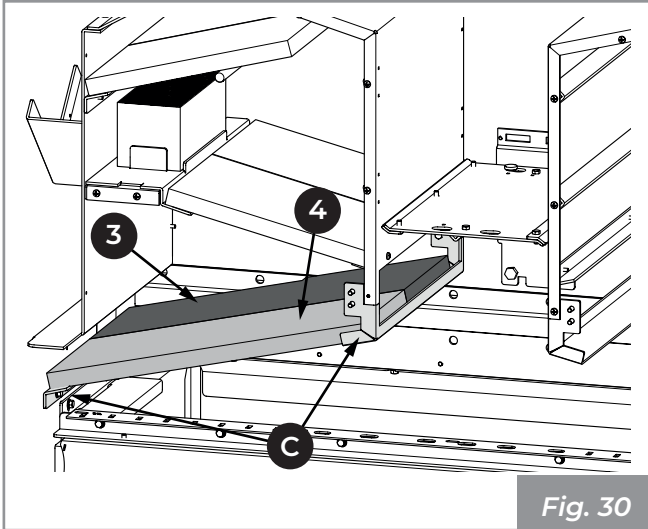

Fig. 30
- 5) Position the panels (3 and 4) resting them on the appropriate supports (C) (Fig. 30).